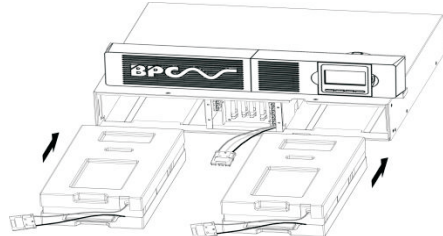

Fig.5 Installation for battery pack
4. Grasp the handle in front of the battery pack, take out of it and hold it, then remove the battery pack. (see Fig.5)